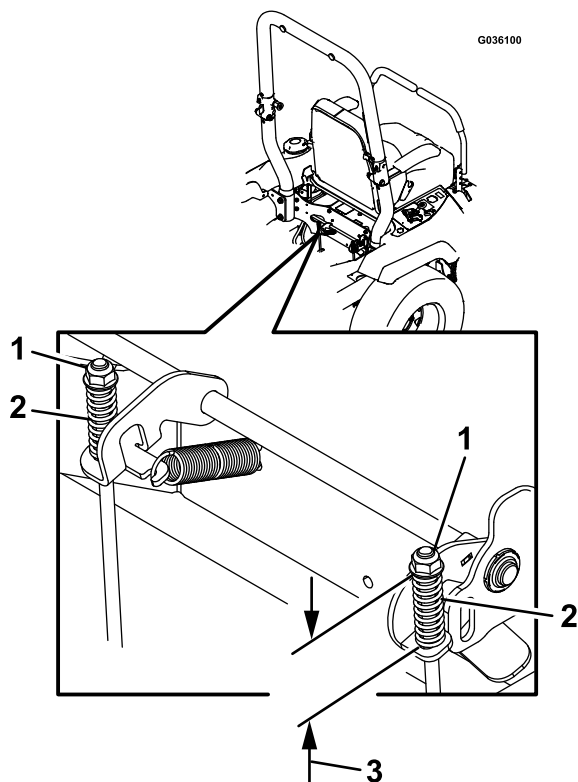

**Figure 89**
6. If an adjustment is necessary, disengage the parking brake. Remove the cotter pin from the brake linkage shaft (Figure 89).